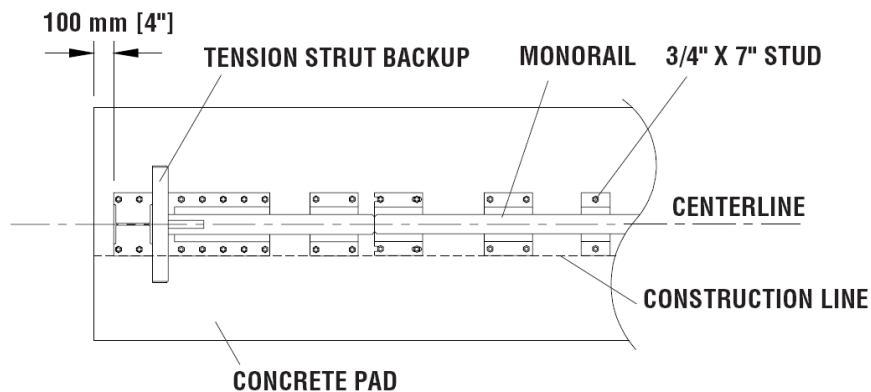

Figure 22
B) Monorail Placement for Tension Strut Backup (Figure 22)
Locate Monorail on foundation with side of Monorail on the construction line and rear edge of Backup foot 4" forward of edge of foundation (Figure 22).